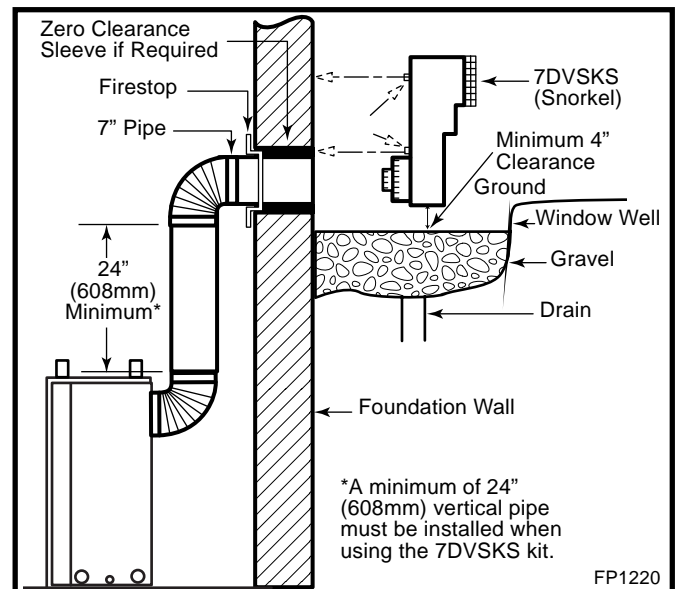

Fig. 27 Below grade installation.
2. Remove soil to a depth of approximately 16" (406mm) below base of snorkel. Install window well (not supplied). Refill hole with 12" (305mm) of coarse gravel leaving a clearance of approximately 4" (100mm) below snorkel. (Fig. 27)
7. Level the soil to maintain a 4" (100mm) clearance below snorkel. (Fig. 27)